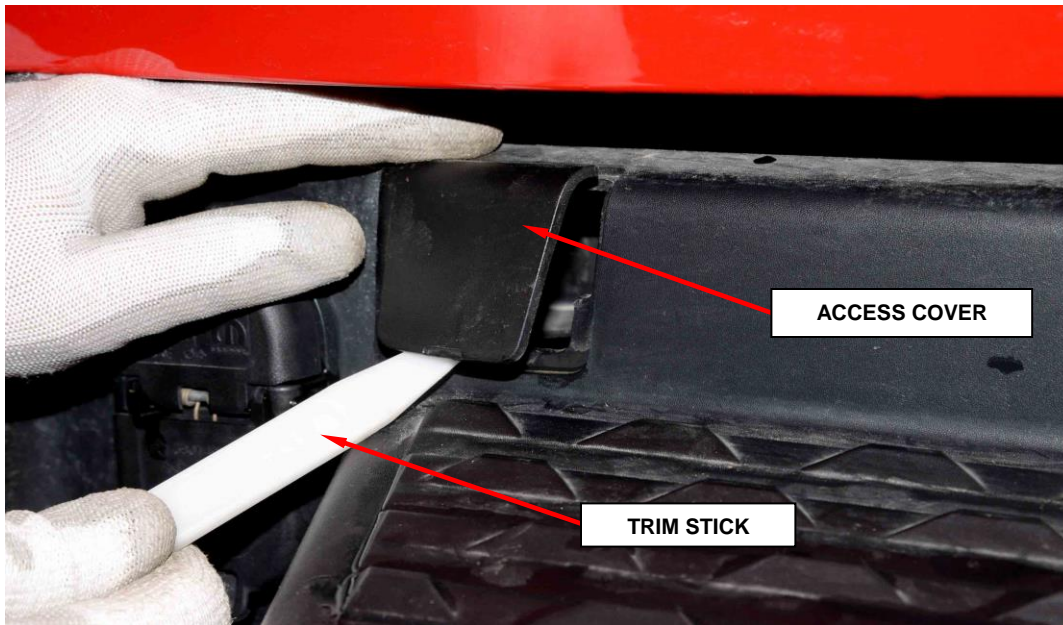

Figure 5 – Access Cover
5. Using a trim stick remove the access cover near the top right side of the rear bumper (Figure 5).
10. Reinstall the access cover (Figure 5).